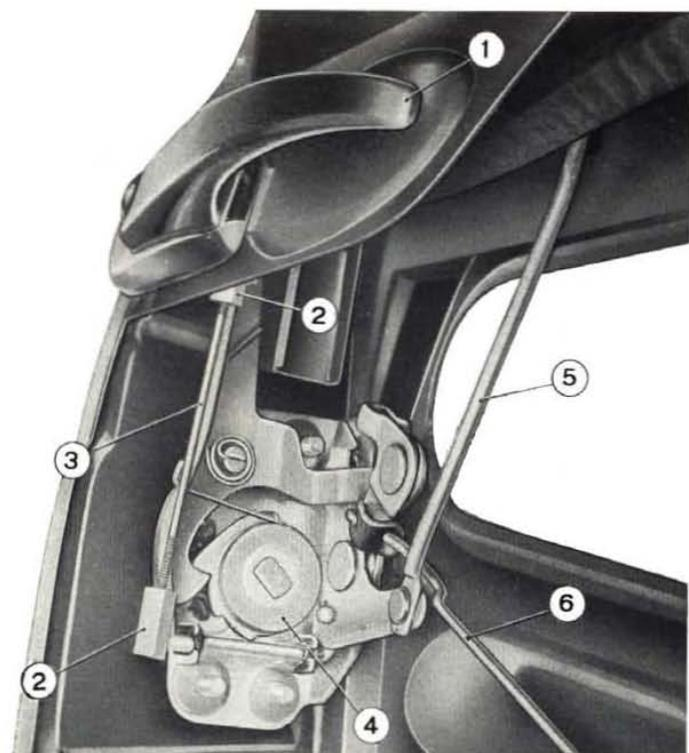

**Fig. 395 - Adjusting drop glass travel.**
Loosen the screw (6, fig. 392) and remove the screws which secure the glass to the control cable (fig. 395).
- lower the glass to abut against the buffer and, without moving the cable, secure the glass to the cable by means of the lock plate (fig. 395).